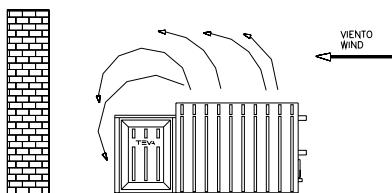
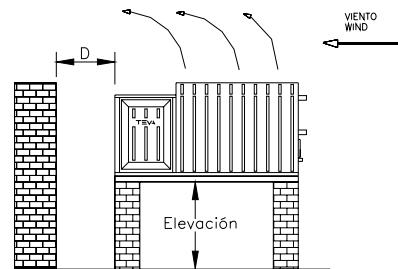

Fig. 1
Fig. 3
*The first requirement is not to situate the equipment near any walls or other obstacles that are higher than the equipment itself (see figures 1 to 3). In the former case, the prevailing wind will push the air against the wall, causing part of it to be re-circulated. In the latter case, the depression created by the wind speed at the bottom of the tower will produce the same phenomenon. Where such proximity is unavoidable, this problem can be overcome by raising the equipment to the height of the nearby wall (see figure 3).*